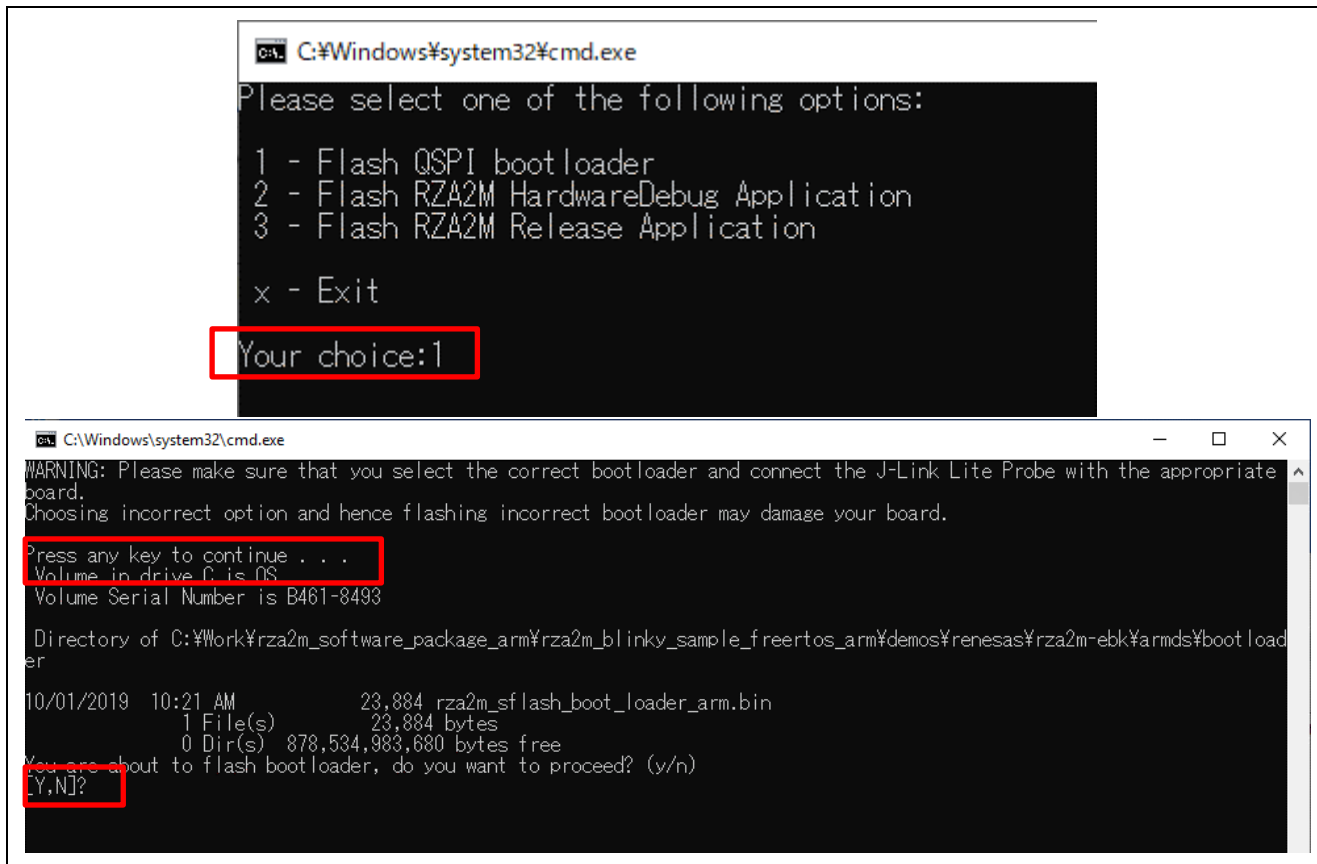

Figure 3-10 Downloading the boot program (1/2)
- This step only needs to be performed once. Since the boot program needs to be downloaded once for the board in the initial state, enter "1" and enter the return key. Then enter the key once and enter "y" when "[Y, N]?" Appears. This is shown in Figure 3-10.